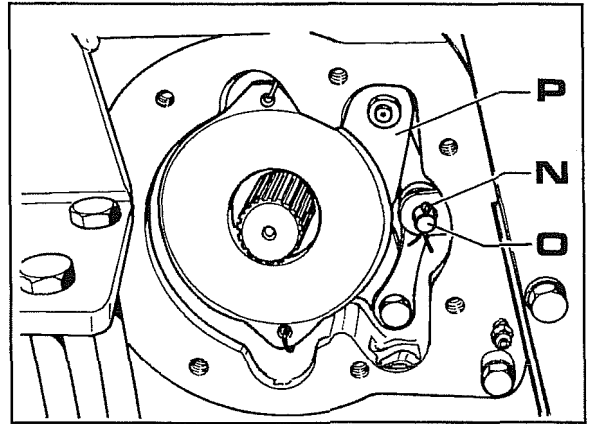

Fig. 21
- 2 Remove the disk pack up to the expansion plate as illustrated in Fig.21.
- 3 Disconnect pivot **O** Fig.21 removing cotter **N**, extract expansion flange **P** and then the disk(s) behind the flange.
If pivot **O** Fig. 21 is turned with the cotter turned towards the inside, it will be easier to dismantle the disk pack if you first remove the housing **P** Fig. 11 and the O-ring under it.